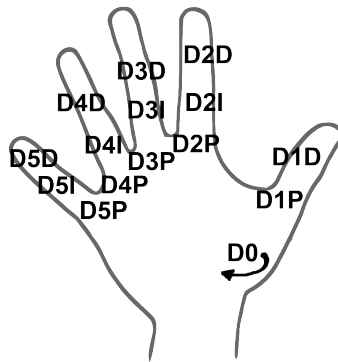

FIGURE 2: Numbering scheme used for joint naming.
**Joints:** The joints are named in accordance with Figure 2. The names are constructed first with a digit indicator (i.e. D2) followed by a joint indicator D, I or P, indicating distal, intermediate, or proximal respectively. Potentiometers are named for the joints that they measure. The digit D0 refers to thumb rotation.